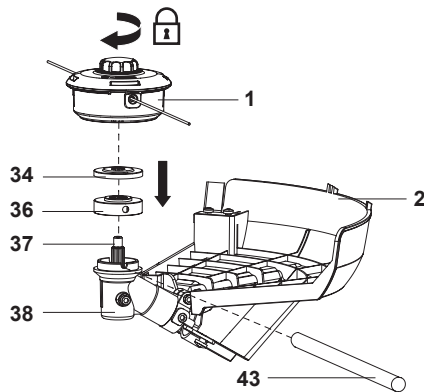

Fig. 4
1. Make sure the guard (2) has been assembled properly.
2. Rotate the backing flange (36) until its hole is aligned with the notch in the gear head (38).
3. Insert the spindle lock rod (43) into the hole to lock the spindle (37).
4. Fit the locking flange (34) onto the backing flange (36).
5. Screw the trimmer head (1) onto the spindle (37) and tighten it anticlockwise by hand.
6. Remove the spindle lock rod (43) (Fig. 4).